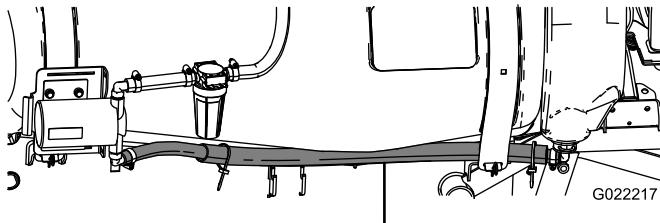

Figure 12
1. Route the rinse tank hose between the front tank strap and the side of the tank (Figure 12).
3. Attach the end of the hose to the lower hosebarb on the rinse pump with a hose clamp (Figure 12).